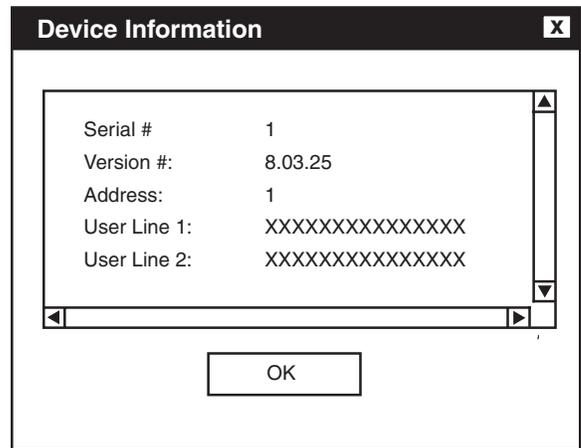

Figure 9-43 Device Information Screen
- Display the Device Information (Figure 9-43) for the corresponding GE-2829 data file.